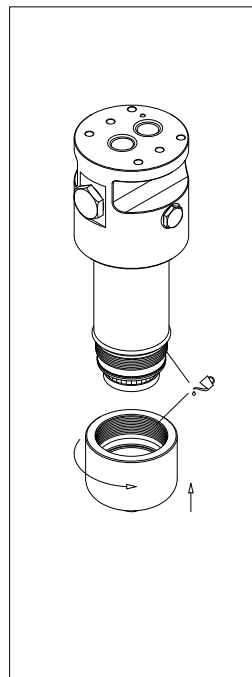

fig. 12
- (Fig. 12) Lubricate the thread and the O-ring of the bowl, then screw the bowl cover in referring to the tightening torque table in paragraph 3.